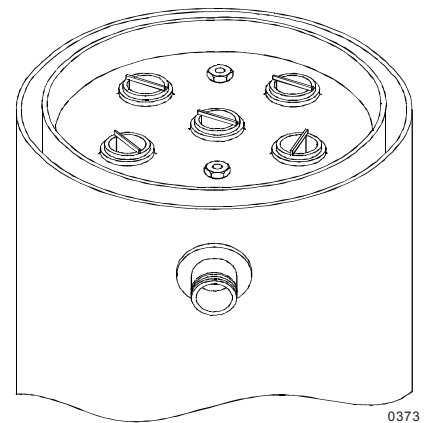

Figure 7 - Anodes
3. Remove the top casing. The hexagonal heads of the anodes are now visible, (see figure 7);